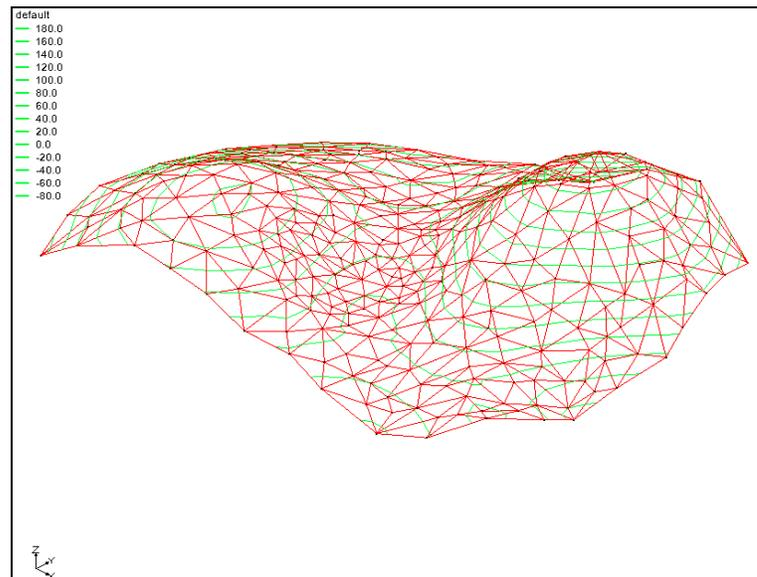

Figure 6 The Graphics Window after the Display Options are reset
- Click **OK** to exit the *Display Options* dialog. The Graphics Window should appear as in Figure 6.